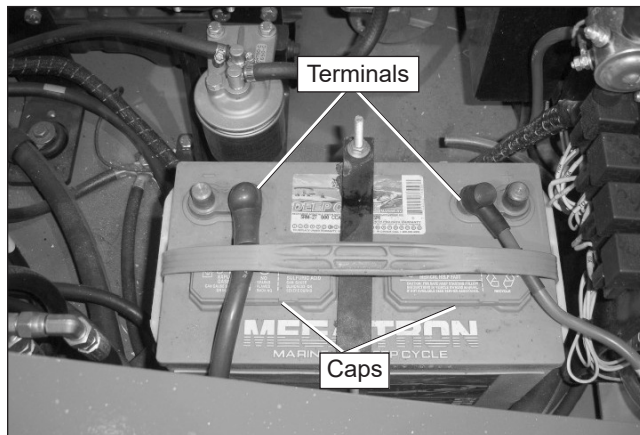

Figure 7.6 – Battery
Electrical power is supplied from a 600 CCA, 12 volt battery. The battery is under the engine cover on the left side of the engine (refer to Figure 7.6). The battery supplies 12 volt DC electrical power to operate the aerial platform electrical and electrohydraulic components, including the emergency power system.
- Remove the caps from the battery (refer to Figure 7.6).
- Check the top of the battery, the terminals, and cable ends. They should be clean and free of corrosion (refer to Figure 7.6).